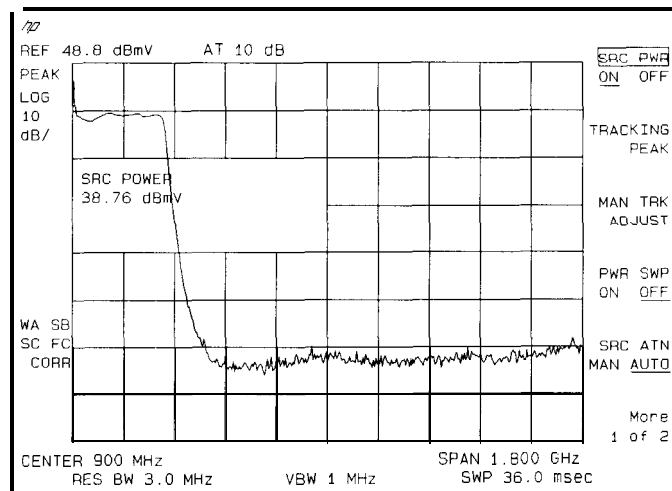

Figure 5-5. Tracking-Generator Output Power Activated
3. Activate the tracking generator menu by pressing **AUX CTRL** and Track **Gen**. To activate the tracking-generator power level, press SRC PWR **ON** OFF until ON is underlined. See Figure 5-5.